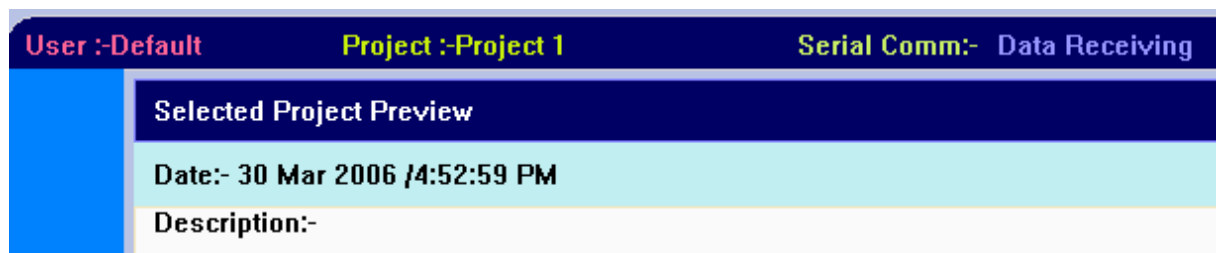

Figure 22: Title bar
2. Click **Load Selected Project**. The project details are loaded into the lower area of the workspace. The title bar shows the name of the loaded project (Figure 22)